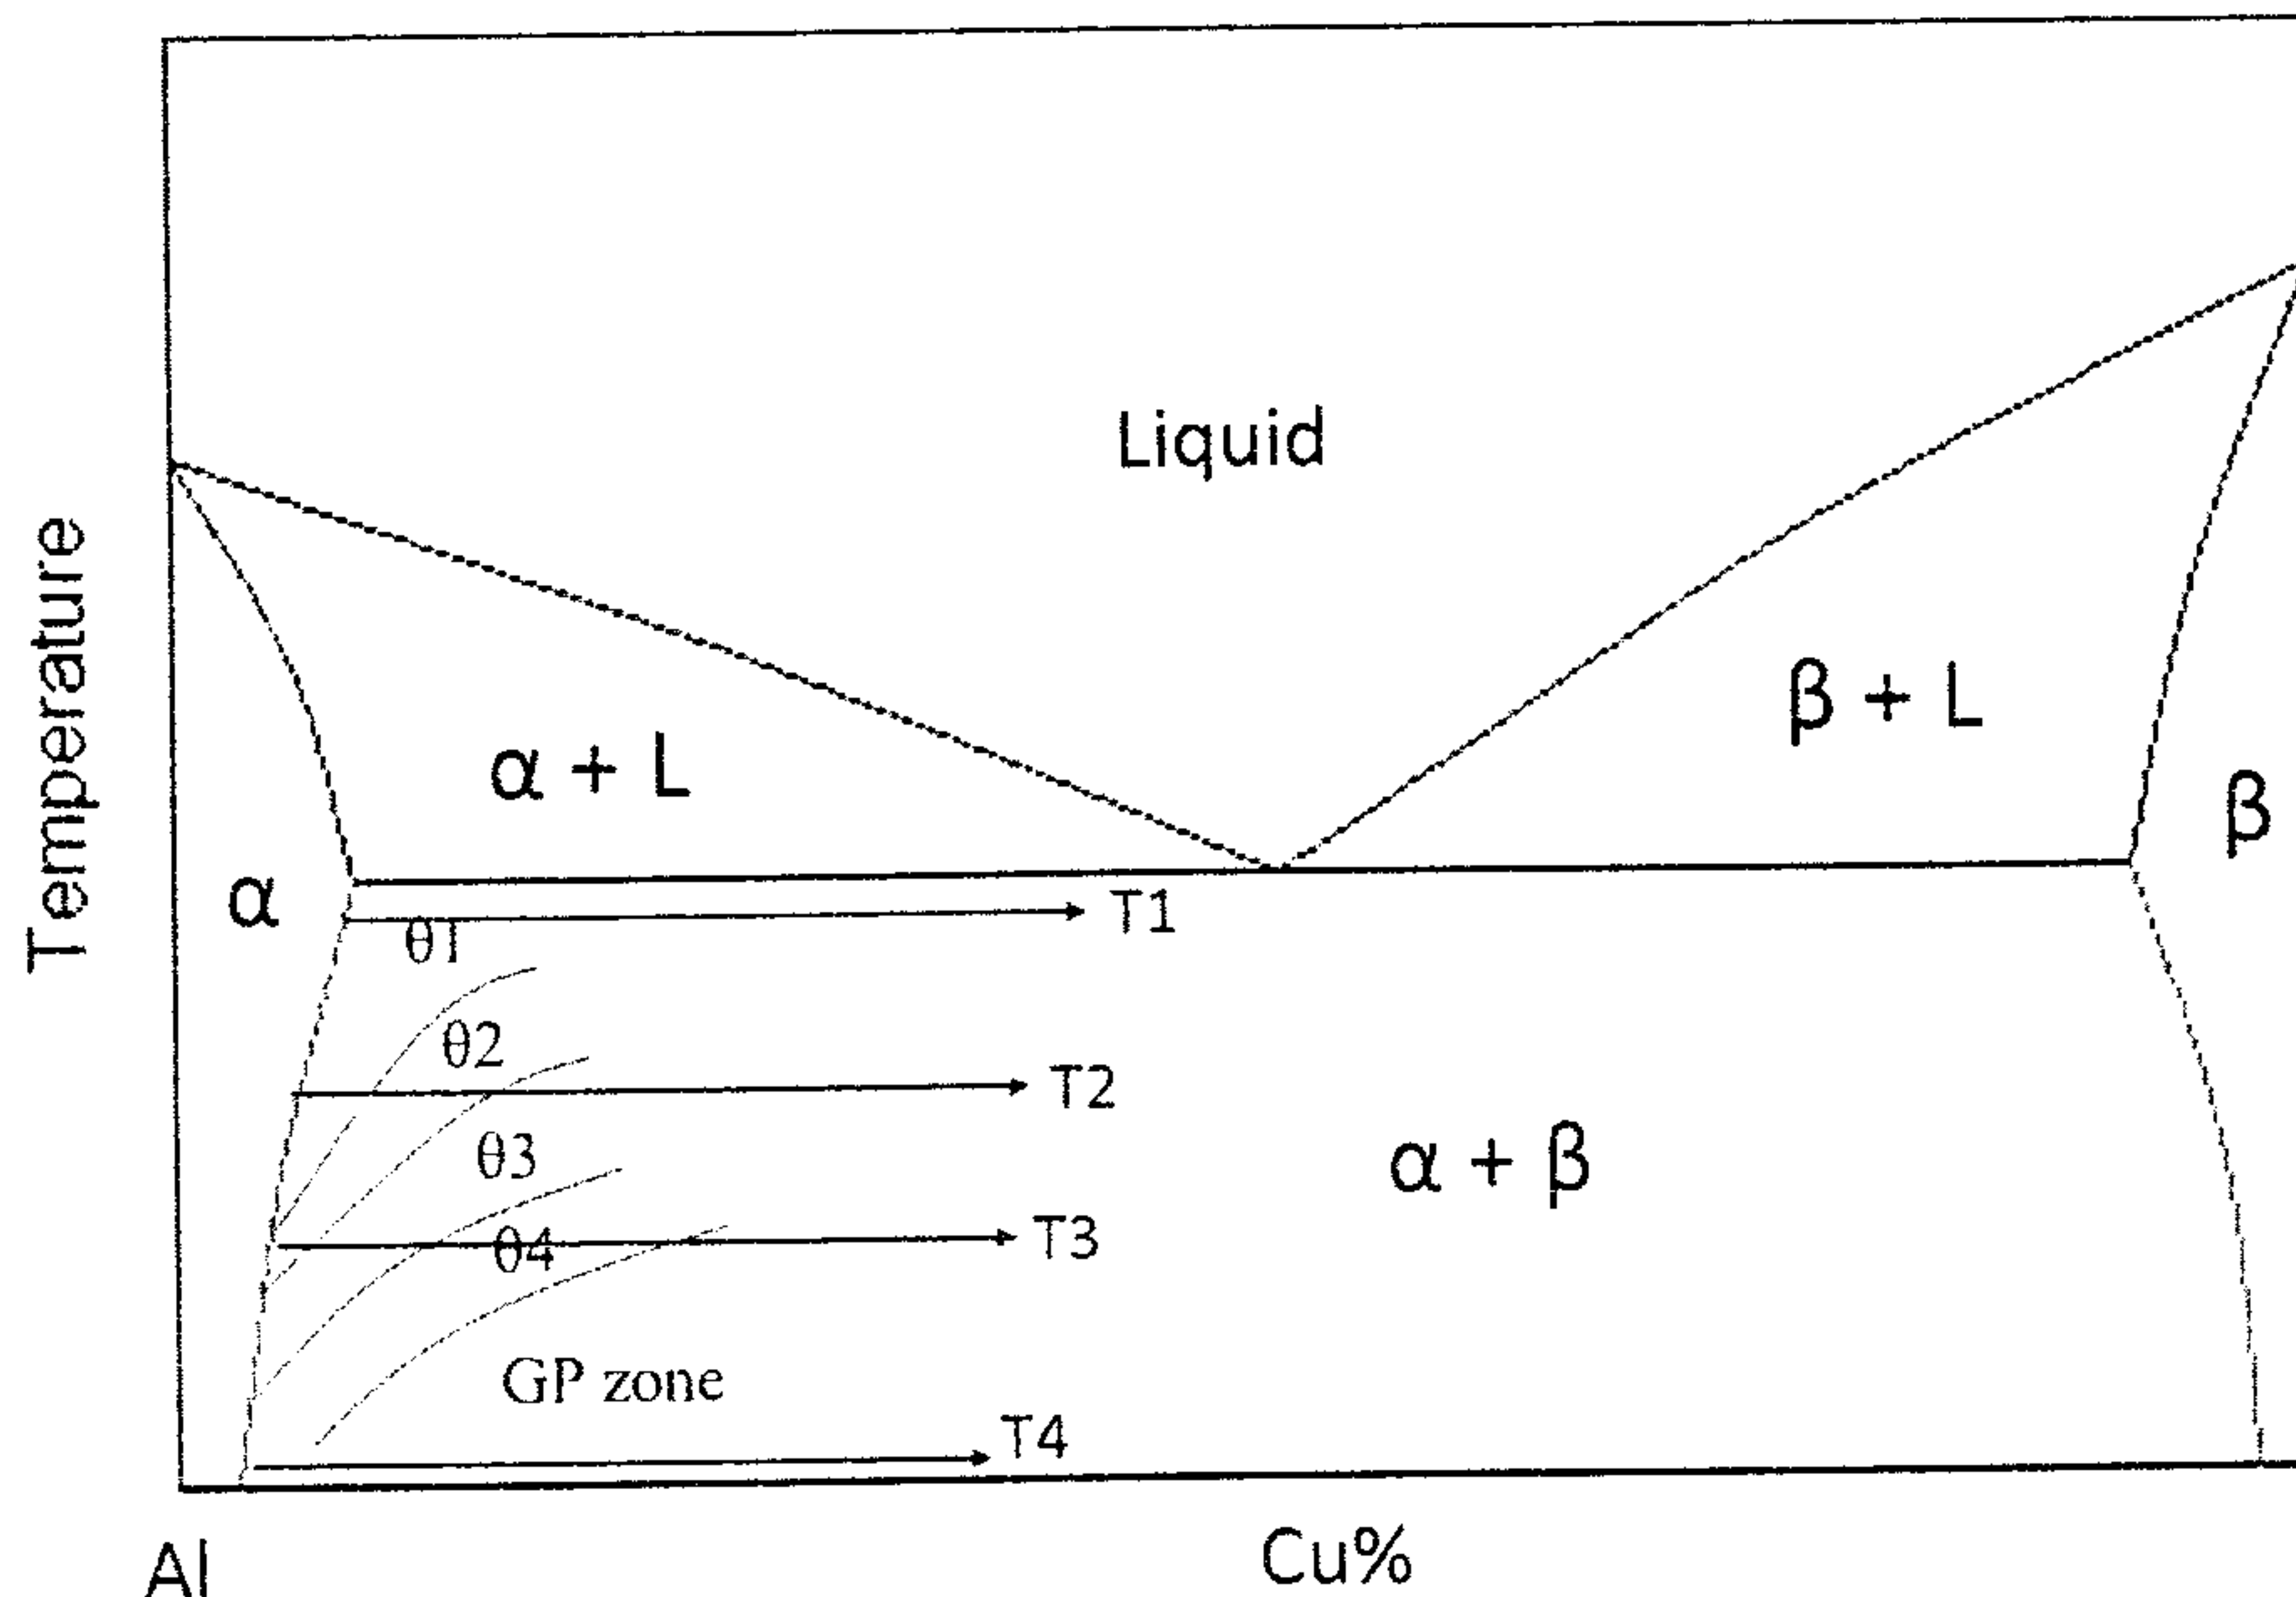

Figure 3. The phase diagram for Al-Cu system.
3. Assuming that you are building the metal deck on a battleship with your colleagues at National Chung-Shan Institute of Science and Technology. (a) Basing on the phase diagram (**Figure 3**), please describe the receipt of Al-Cu alloy (Cu denote the dopant) for precipitation hardening and the subsequent thermal process on strengthening the metal deck materials without mechanical deformation (**10%**). (b) phase diagram for the precipitates  $\theta_1$ ,  $\theta_2$ ,  $\theta_3$ ,  $\theta_4$ , and GP zone was shown in **Figure 3**, please draw the cooling curves (TTT curve) of these phases as a function of cooling time (**5%**). (c) please describe the phase transformation pathways and the hardening curves for these as a function of aging time at the selected temperatures (**5%**); (d) please explain the mechanisms of the precipitation hardening (**5%**); (e) In this blade, the precipitates are core ( $\alpha$  phase) – shell ( $\beta$  phase) nanodisk; where the diameter and thickness of core is  $D_c$  and  $T_c$ , respectively) with the shell thickness of  $T_s$ . Considering cases for the homogeneous and heterogeneous nucleation of these precipitates, please derive the free energy changes of the system when interface energies of the precipitates are denoted as  $\gamma(i)$  (for example free energy at core-shell interface is  $\gamma(\alpha, \beta)$ ) (**5%**). (f) please explain the presence of critical precipitate grain size by sketching the free energy diagram in your case (**5%**). <89/100>